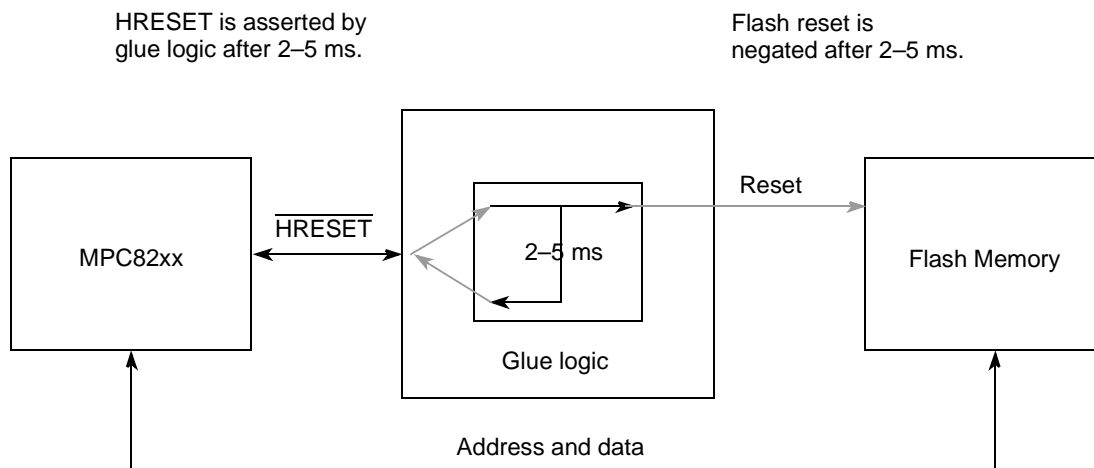

Figure 1. PowerQUICC II \overline{HRESET} to Flash implementation
1. \overline{HRESET} to flash memory. To enable a flash that requires a minimum reset time to be interfaced to the PowerQUICC II \overline{HRESET} , interface logic can be used as shown in Figure 1. In this example, the interface logic is used to interpret a \overline{HRESET} assertion by the PowerQUICC II as a reset assertion to the Flash device. From \overline{HRESET} being internally activated, the PowerQUICC II takes 1024 CLOCKIN cycles before \overline{HRESET} is negated. At this point the interface logic can be used to assert \overline{HRESET} into the PowerQUICC II for a combined time period greater than the minimum reset time required by the flash memory. This approach allows the designer to implement the minimum flash reset time while using a PowerQUICC II internal \overline{HRESET} (which can come from sources such as the bus monitor or software watchdog timeout).